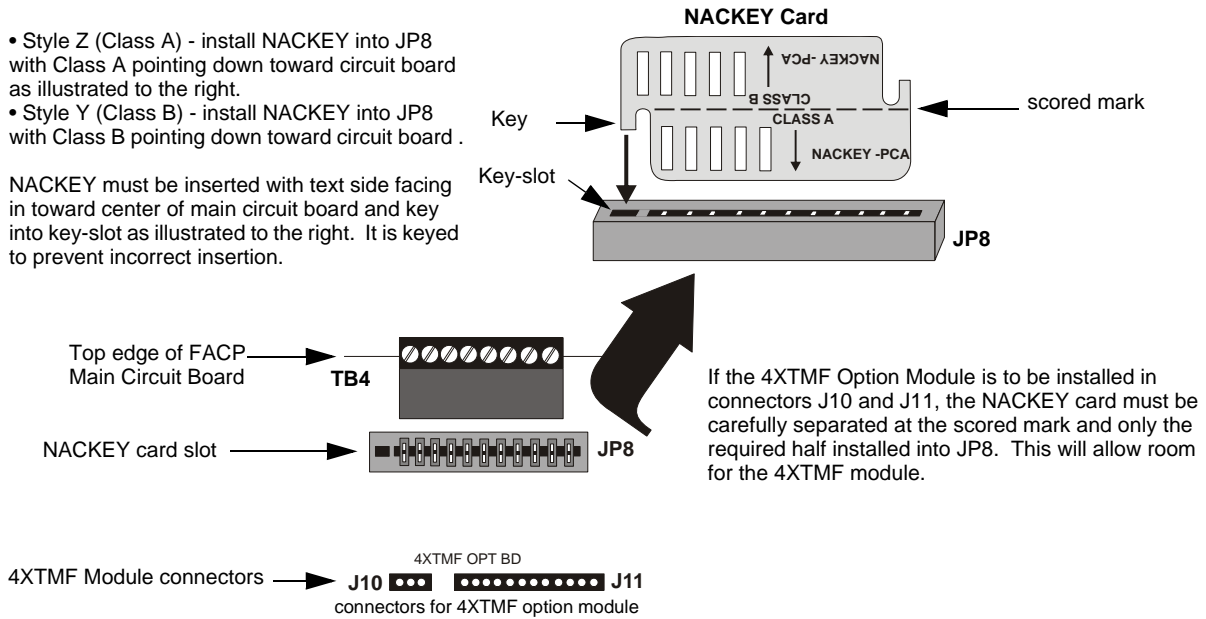

Figure 2.6 NAC Configuration Using NACKEY
The Notification Appliance Circuits on the main circuit board are configured for Style Y or Style Z by properly orienting the NACKEY card in JP8 which is located at the top of the main circuit board near the NAC Terminal TB4. The default configuration is for Style Y (Class B). Refer to Figure 2.6 for information on installing the NACKEY card.
3. The NACKEY Card must be separated at the score mark to allow connection of the 4XTMF module (refer to Figure 2.6 on page 31 for complete information)